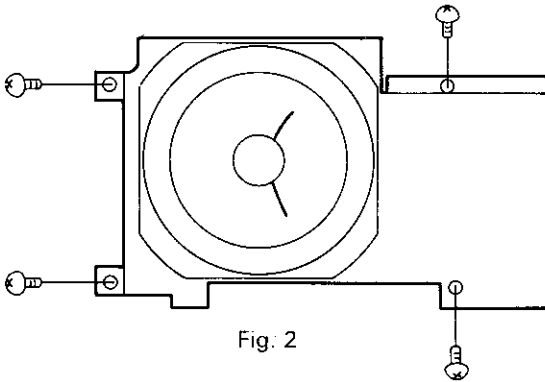

Fig. 2
2. Remove the speaker fitting.(Fig. 2)